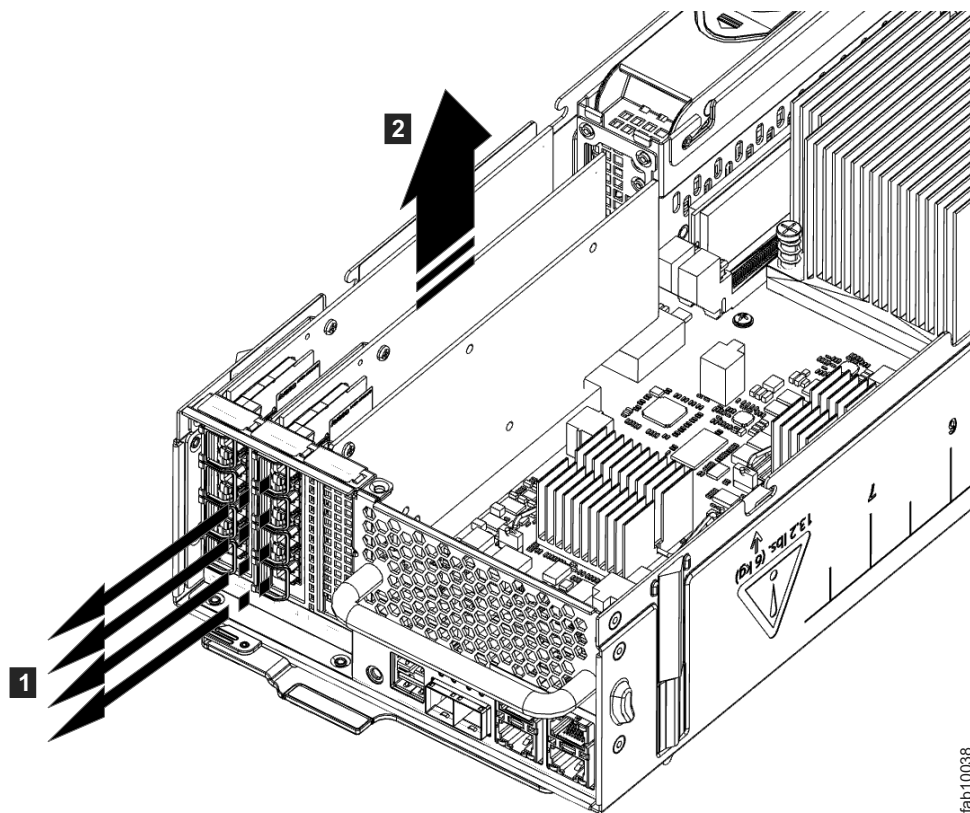

Figure 46. Removing the host interface adapter
5. Gently pull the host interface adapter upward to disconnect it **2**, and then carefully remove it from the canister **1**. Figure 46 displays removing the host interface adapter.